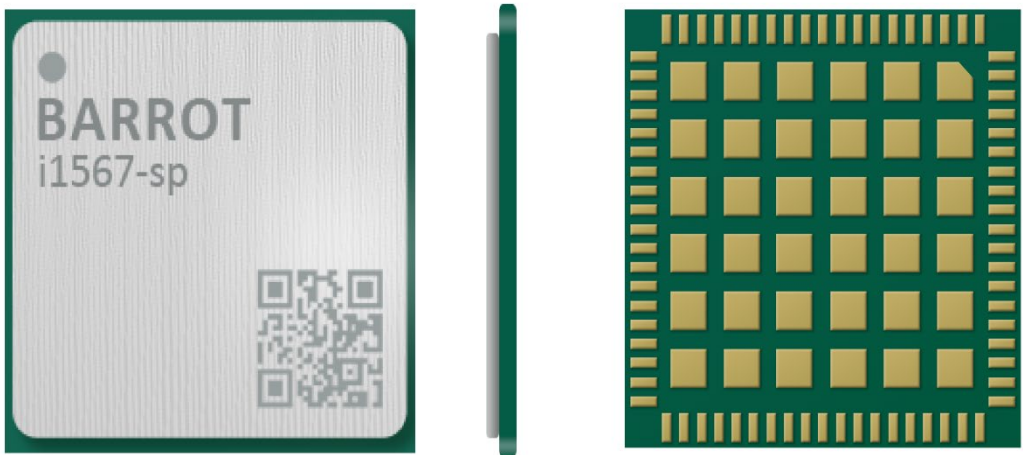

Figure 2 LGA package 3D view
- 2) LGA package, refer to Figure 2 below.